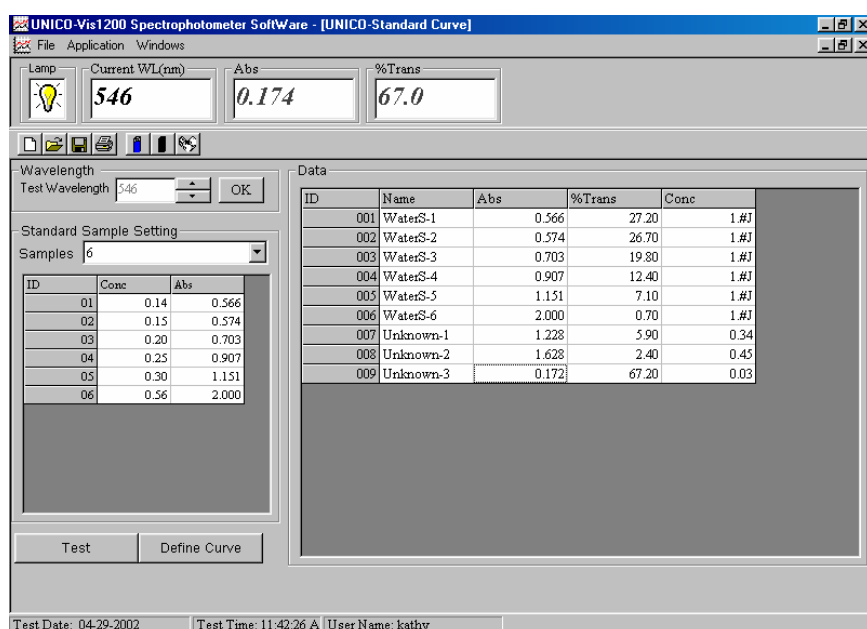

Figure-31 Sample Test Results of **Standard Curve**
- Step 5: Place the standards in the Sample Compartment in order of lowest concentration to highest concentration. Type the concentration of the standards (e.g. 0.14 here) into the Text Field starting below **Conc** label and at the right of **ID 01** as Figure-31 shown. Press **Enter** key on your computer keyboard or click with the mouse to move to the next cell. Repeat the same operation until all concentrations of the standards have been entered.
- Step 6: Measure the **Absorbance** of each standard. For each measurement, insert the standard into Sample Compartment and click **Test** button. The **Absorbance** and **Transmittance** values will be recorded into the **Data Table**; then, double click in the appropriate **Absorbance** cell (**Abs**) (in the left table) next to the standard **Conc** to get the **Absorbance** for curve drawing. Continue until all of the standards have been measured (Figure-31). Alternatively, if you do not want the **Absorbance** of the standards to be recorded into the **Data Table**, you may select the appropriate **Absorbance** cell (**Abs**) (in the left table) next to the standard **Conc** and double click the mouse to get the **Absorbance** results.
- Step 7: Press the **Define Curve** Button (Figure-31) to graph the **Standard Curve** (e.g. WaterS-1 to WaterS-6 are the standards) (Figure-32) and you may **save** it for future use.
- Step 3: When ready to measure samples of unknown concentration, press  (arrow return button) to return to the main **Standard Curve** screen (Figure-31).
- Step 4: To measure the concentration of unknowns, place the samples in the Sample Compartment and click on **Test** button (Figure-31), located at the bottom-left portion of the screen.